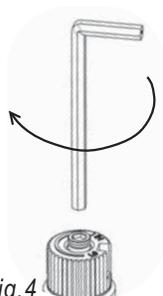

Fig. 4
- 14) Using the Allen wrench as shown in Fig. 4, rotate the screw clockwise until snug, do not over-tighten.